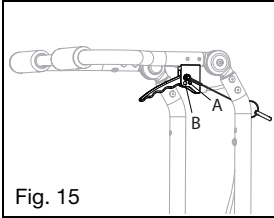

Fig. 15
- a. Determine which style back canes and trigger were provided with the chair by checking the images in Fig. 15 and 16.
- c. Insert the pin, attached to the trigger by a lanyard, into the hand trigger hole (Fig. 15:A & 16:A).
- d. Insert the pin attached to the trigger by a lanyard into the hole (Fig. 15:B & 16:B).